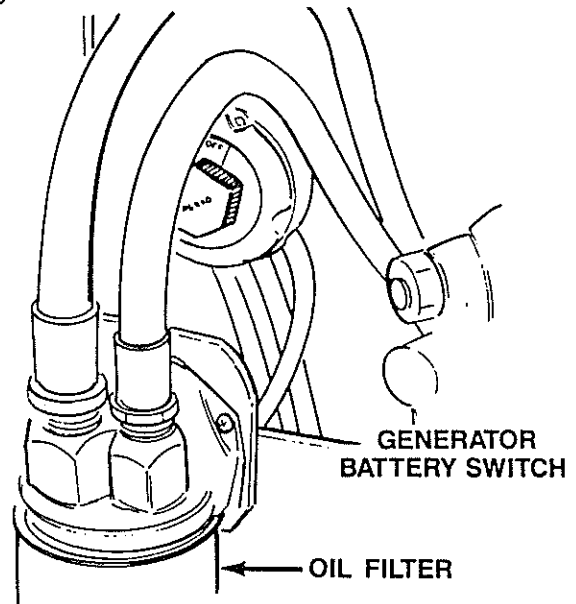

Figure 3-16 Generator Battery Switch
6. See Figure 3-16. Make sure the generator battery switch is set to ON.